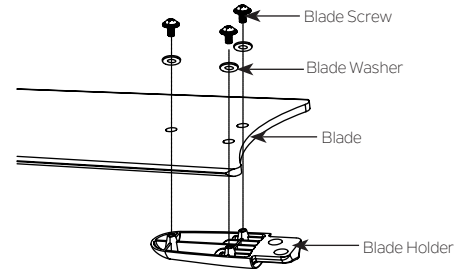

Fig. 19
Step 1. Place the blade over the blade holder, make sure the bottom edge of the blade is fully seated against the blade holder, securely tighten the blade to the blade holder with three (3) blade screws and washers. Repeat for remaining blades. (Fig. 19)